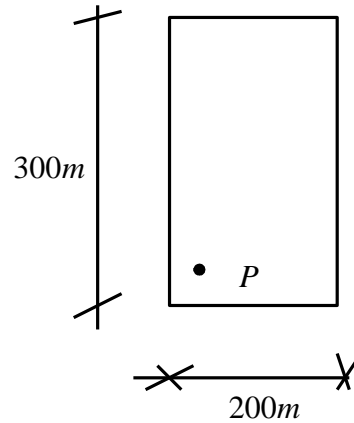

Fig. 3
- (b). Figure 3 shows a pre-assessed concrete beam.